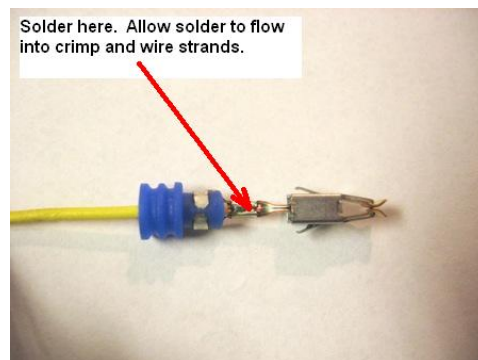

Figure 4. Location to solder.
- d. Solder crimp connection while making sure solder area is clean, is heated thoroughly, and that an appropriate amount of solder is used (Figure 4).